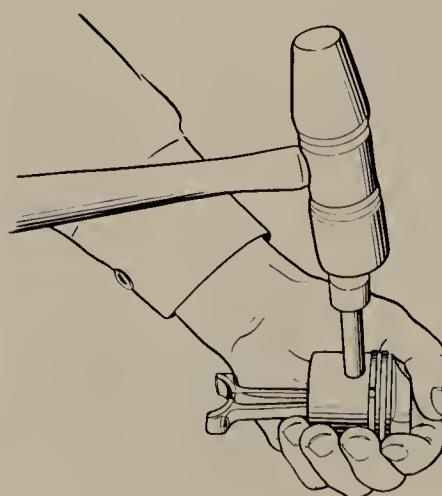

FIGURE 16.20 Removing the piston pin with a special punch. (Lawn Boy Division, Outboard Marine Corporation.)
16.4 Servicing Piston and Rings. Rods are attached to pistons in several ways. In one, the piston pin is a press fit in the rod and must be driven out with a special punch. See Fig. 16.20. Another design